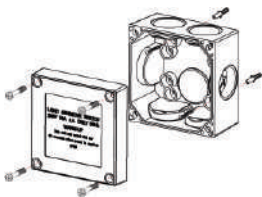

Figure 1
2. Loosen the screws and remove the front cover (refer to fig. 1)